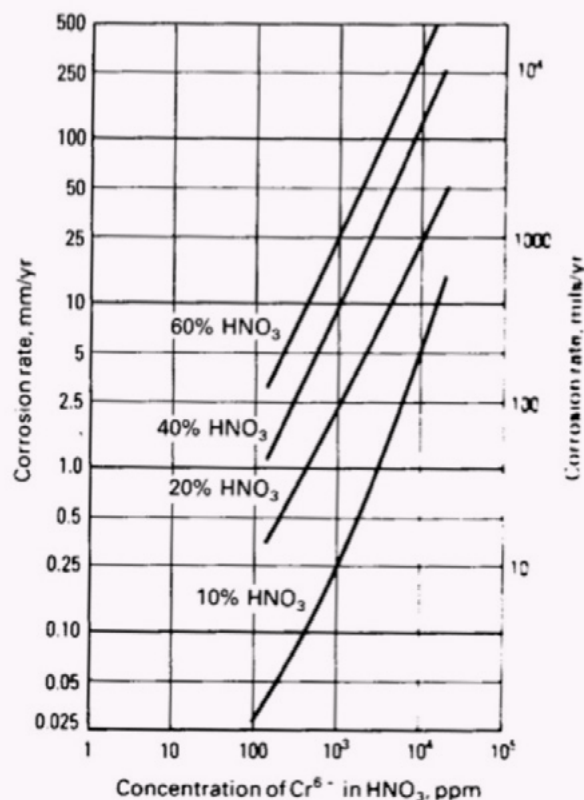

Figure 7: Corrosion rate stainless steel with Cr⁶⁺ and HNO₃ concentration (4)
nominally nitric acid as the process fluid even with some levels of chloride. It prompted thought of auto-catalytic attack by hot nitric acid - but the concentration was too low – and even brief consideration of trans-passive breakdown. However, the lack of post weld passivation treatment was regarded as a significant issue and lead to NTIS work (4) on the effect of chromium content on nitric acid attack on stainless steel as seen in Figure 7.